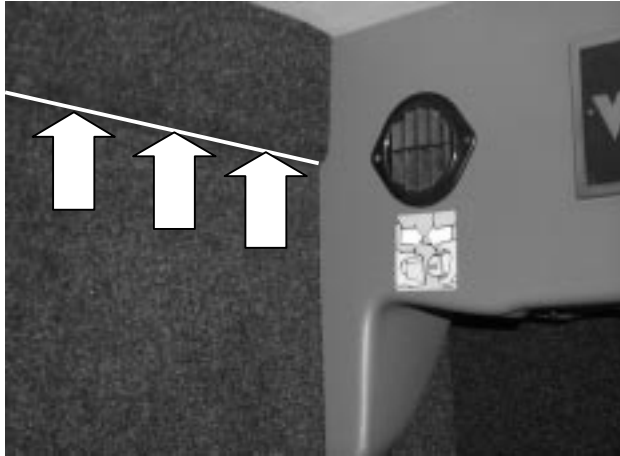

Figure 20: Trimmed plinth covering the gap between restroom ceiling and coach roof
- 1) On the outside of the restroom, adjacent to the coach' roof, is a trimmed plinth. Insert a flat screwdriver beneath it (see Figure 20) and carefully pry it loose.